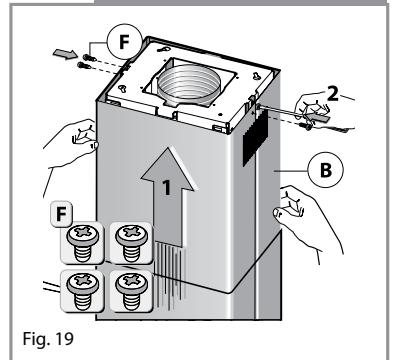

Fig. 19
5. Connect the mains electrical supply (Refer to the 'Mains electricity connection' section of the manual) and then secure the chimney sections(B) to the upper support using the four supplied screws (F), as shown in Fig 19 above: